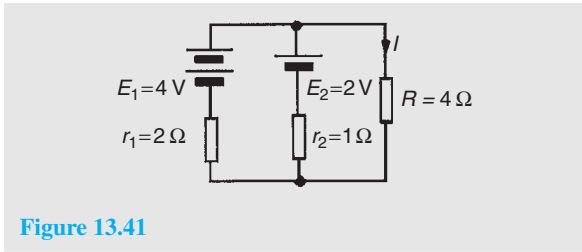

Figure 13.41
**Problem 9.** Use Thévenin's theorem to determine the current  $I$  flowing in the  $4 \Omega$  resistor shown in Fig. 13.41. Find also the power dissipated in the  $4 \Omega$  resistor.